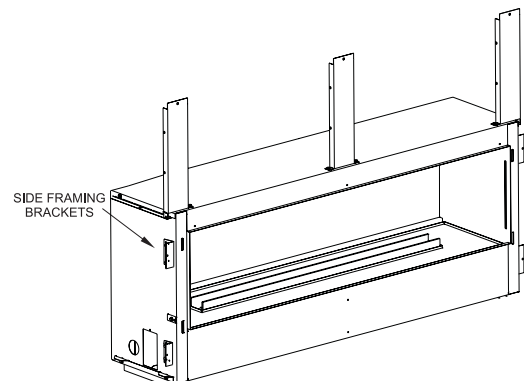

Figure 14
7. Reinstall the burner and valve assembly and reattach the screws removed in step 2. **See Figure 14.**